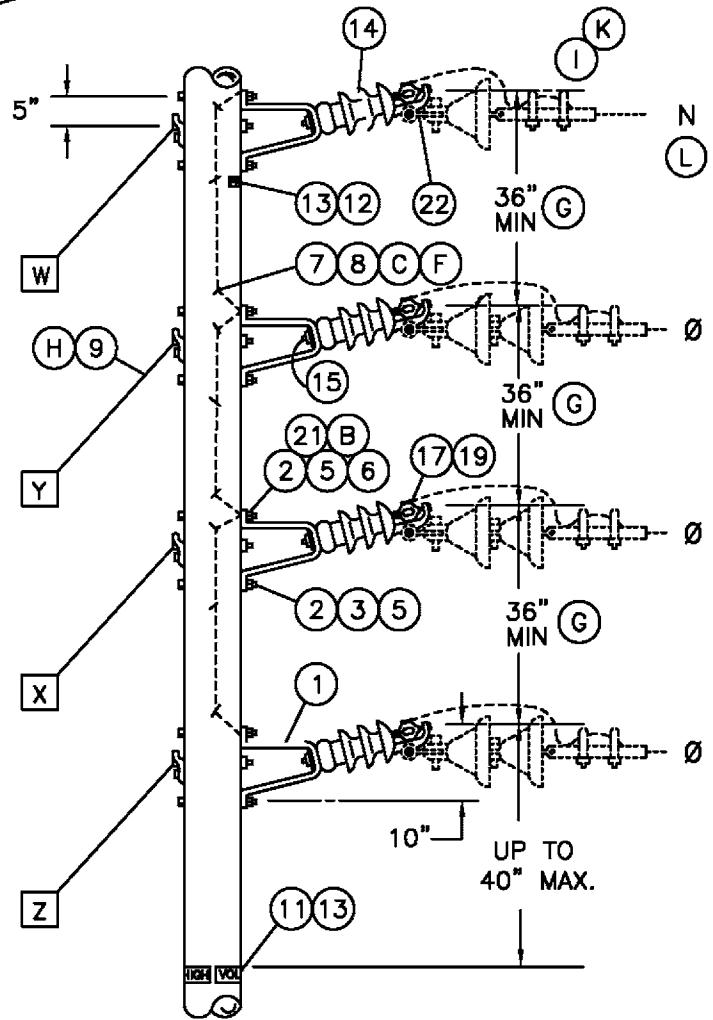

FIGURE 2
- (H) ADD THE GUYS IN ORDER INDICATED (W,X,Y,Z) AS REQUIRED IN THE GUYING SECTION.
- (I) WHERE REQUIRED TO ADD A TAP TO THIS CONSTRUCTION, ATTACH DEADEND ASSEMBLY ON PAGE 422.1 AND 422.2 TO HPIs WITH DEADEND CLEVIS. IF PAGE 756 REQUIRES THIS ASSEMBLY TO BE BONDED, CONTACT DISTRIBUTION STANDARDS.
- (J) WHERE REQUIRED TO ADD A TAP TO THIS CONSTRUCTION, USE FIG. 2.
- (K) PER G.O.-95 RULE 54.4-C4 (b), ONLY TWO CONDUCTORS ARE ALLOWED TO BE DEAD ENDED FOR 4 KV OPERATION.
- (L) ON ALL NEW CONSTRUCTION AND WHEN ADDING TO EXISTING CONSTRUCTION, NEUTRAL TO BE PLACED IN THE TOP OR BOTTOM PIN POSITIONS PER DESIGN MANUAL PAGE 5124.2.